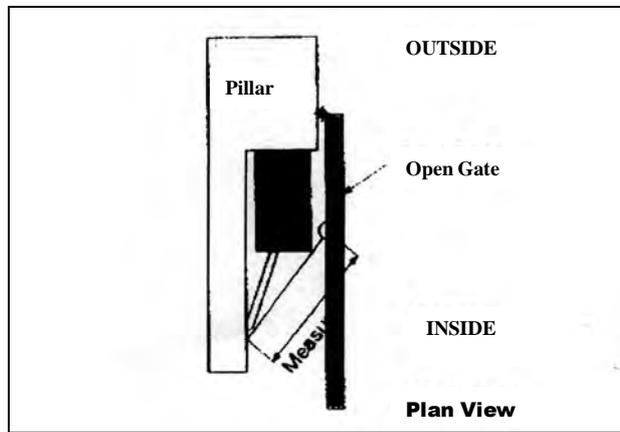

Figure 8: Re-measure length of Secondary arm
3. Move the Primary arm to its maximum open position. Open the gate and measure the distance again (Figure 8). If the length has changed then the gate bracket must be repositioned and the process repeated until the dimension remains the same for both positions. Be careful that the Secondary arm does not conflict with the drive shaft of the Primary arm.